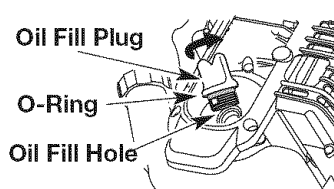

Fig. 20
**NOTE:** Make sure the O-ring is in place on the oil fill plug when checking and changing the oil (Fig. 20).